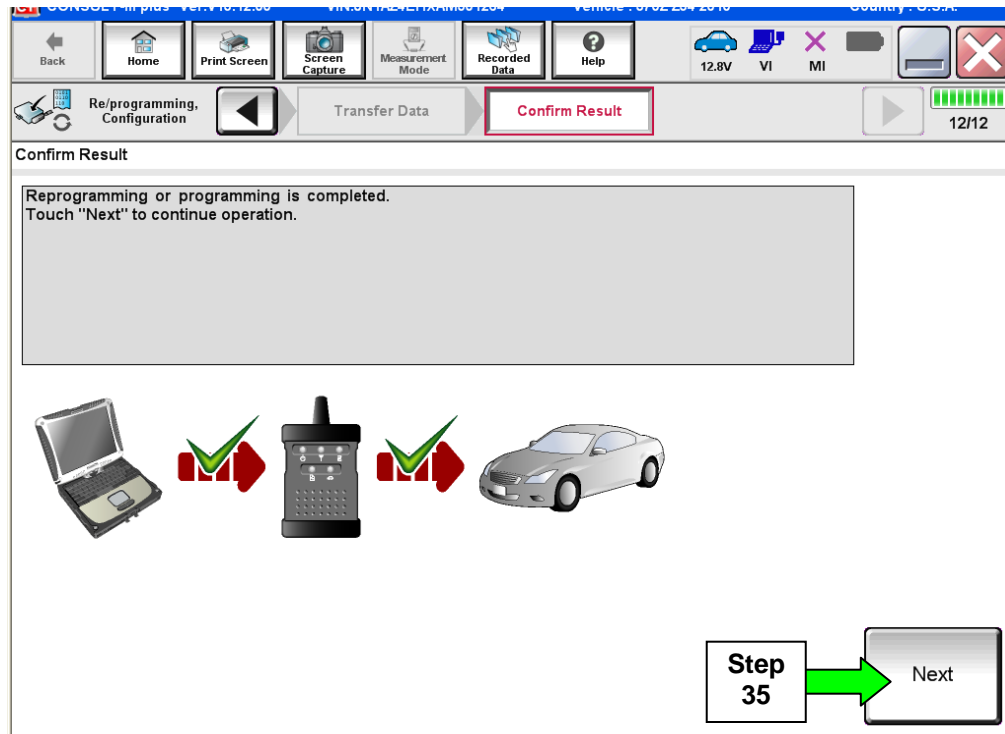

Figure 19
33. When the screen in Figure 19 displays, the reprogramming is complete.
**NOTE:** If the screen in Figure 19 does not display (reprogramming does not complete), refer to the information on the next page.